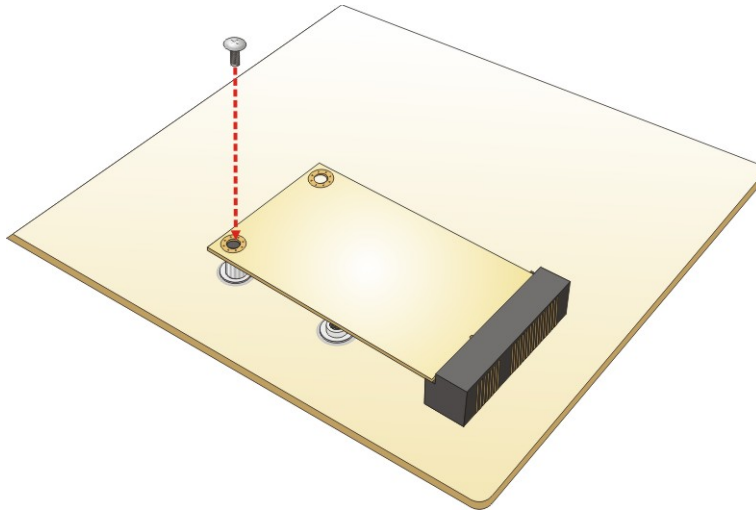

Figure 4-4: Securing the mSATA Module
- Step 4:** Secure the mSATA module with the retention screw previously removed (Figure 4-4).